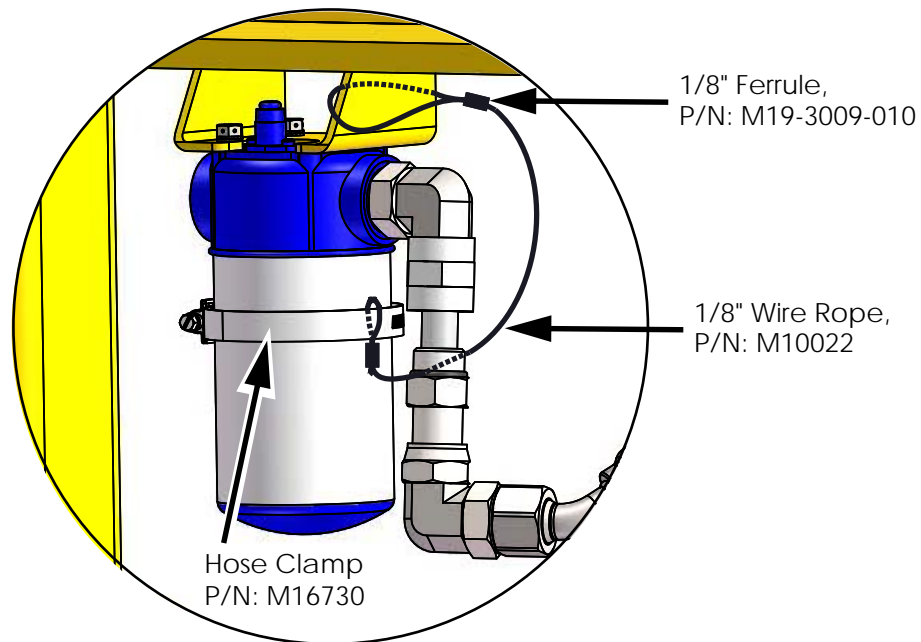

Figure 2: Oil Filter Element Safety Securement
1. Loop 1/8" wire rope (P/N: M10022) around the oil filter mounting bracket and secure using 1/8" ferrule as shown in Figure 2 on page 2.
2. Loop the other end of the 1/8" wire rope through the hose clamp (P/N: M16730) and secure using a 1/8" ferrule as shown in Figure 2 on page 2.